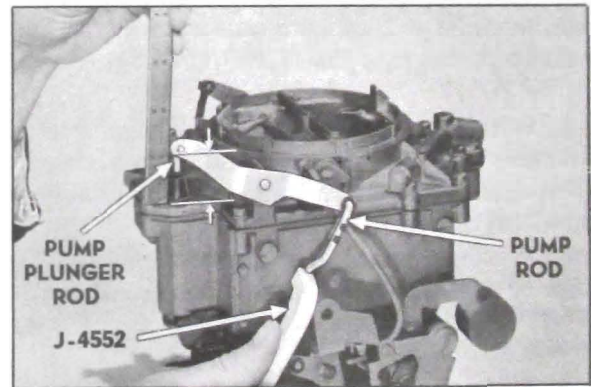

Figure 3-92—Pump Rod Adjustment
26. Push fast idle cam to full down position and back-out throttle stop screw until throttle valves can be completely closed. With throttle held closed, measure vertically from under side of pump plunger offset to air horn casting. Bend pump rod as required to obtain $1\frac{3}{32}$ " measurement using Tool J-4552. See figure 3-92.